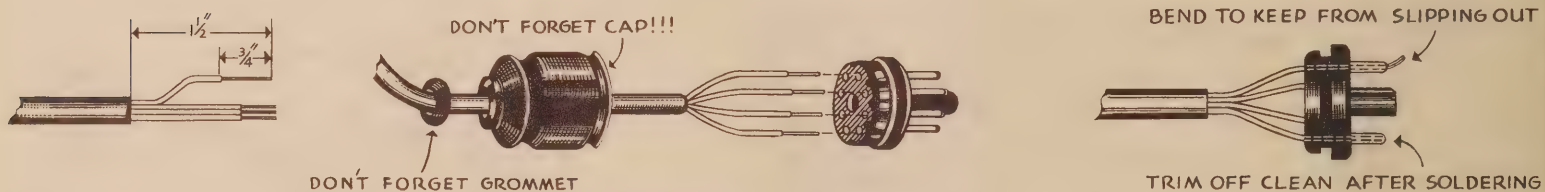

Figure 15
- (✓) 56. Connect a 15 K Ω 1 watt resistor between G \blacksquare (S) and G \blacktriangle (NS).
- (✓) 57. Connect a 47 K Ω resistor from G \blacktriangle (NS) to G — (NS).
- (✓) 59. Cut the orange lead to an exposed length of 2", strip and connect to the twisted condenser mounting lug GG (NS) nearest the bottom of the bracket.
- (✓) 60. Similarly, cut the green lead to a 2" length and connect it to G ▲ (S).
- (✓) 63. Connect one end of a 10" length of hookup wire to GG (S). Insert a 3/16" grommet at J and pass this lead through the grommet.
- (✓) 64. Connect one end of an 13" length of hookup wire to G ▲ (S). Pass this lead through the grommet at J.
- (✓) 65. Connect one end of a 7" length of hookup wire to G — (S). Pass this lead through the grommet at J.
- (✓) 66. At the free end of the 8-conductor cable, remove the jacket for about 1 1/2". Strip each conductor to expose about 3/4" of bare wire. (See Figure 15.) Slip a 3/8" grommet on the cable. Slip the plug cap on the cable, with its grommet toward the bracket end of the cable.